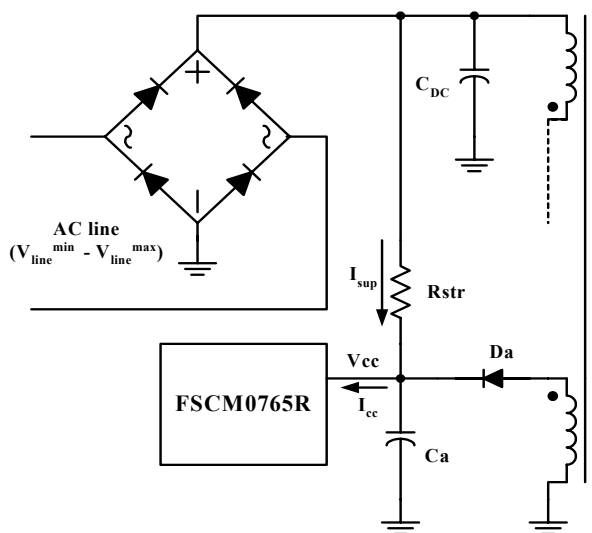
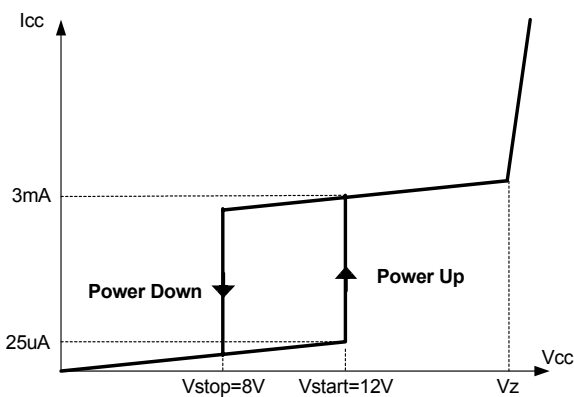

Figure 4. Startup circuit
Figure 5. Relation between operating supply current and Vcc voltage
**1. Startup** : Figure 4 shows the typical startup circuit and transformer auxiliary winding for FSCM0765R application. Before FSCM0765R begins switching, FSCM0765R consumes only startup current (typically 25uA) and the current supplied from the DC link supply current consumed by FPS ( $I_{cc}$ ) and charges the external capacitor ( $C_a$ ) that is connected to the Vcc pin. When Vcc reaches start voltage of 12V ( $V_{START}$ ), FSCM0765R begins switching, and the current consumed by FSCM0765R increases to 3mA. Then, FSCM0765R continues its normal switching operation and the power required for this device is supplied from the transformer auxiliary winding, unless Vcc drops below the stop voltage of 8V ( $V_{STOP}$ ). To guarantee the stable operation of the control IC, Vcc has under voltage lockout (UVLO) with 4V hysteresis. Figure 5 shows the relation between the current consumed by FPS ( $I_{cc}$ ) and the supply voltage (Vcc).